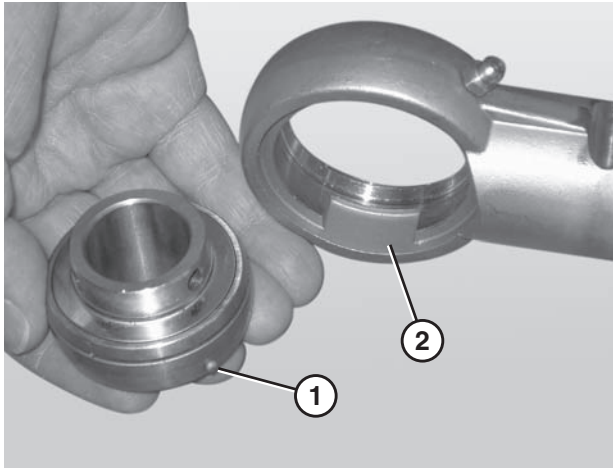

Figure 89
5. Remove the worn or damaged bearing (Figure 89, item 1).
When inserting the new bearing, make sure the anti-rotation notch (Figure 89, item 1) on the bearing lines up with the groove inside the housing (Figure 89, item 2).